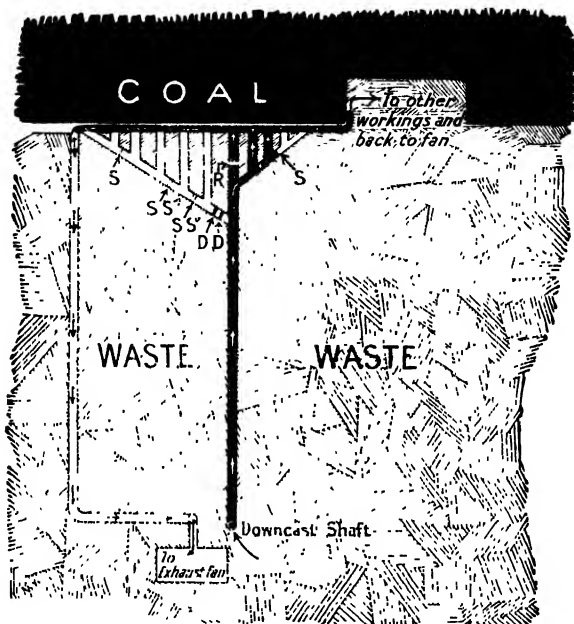

FIG. 119—How a coal mine is ventilated.
Very great care has to be taken to guide it through every single working in the mine. The diagram (Fig. 119) gives some idea of the way this can be done. The difficulty lies in the fact that a mine is a complicated maze of workings; and the air therefore, if not prevented from doing so, would take a short cut from the intake to the exit and never go near the coal face. Every passage-way, therefore, which is not in the direct line through which the air is intended to go, must be closed by wooden doors (D); or fabric screens (S); where the passages fork, a regulator (R), which is a partition with a sliding shutter, regulates the amount of air which goes to each.